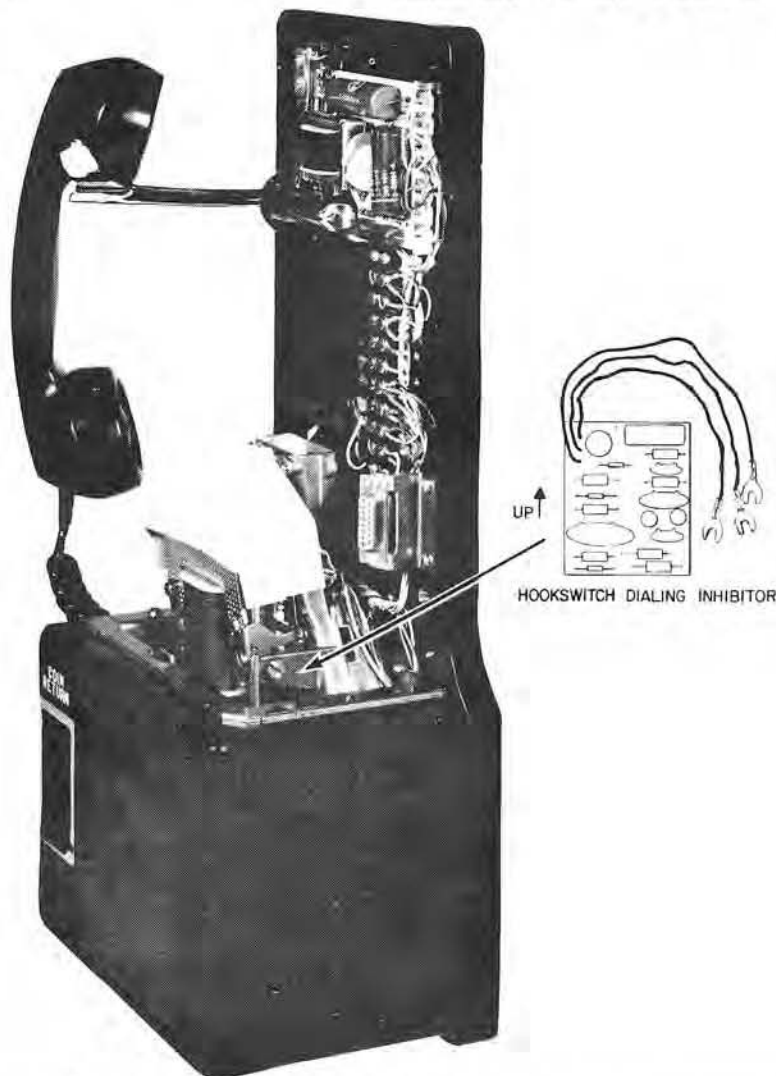
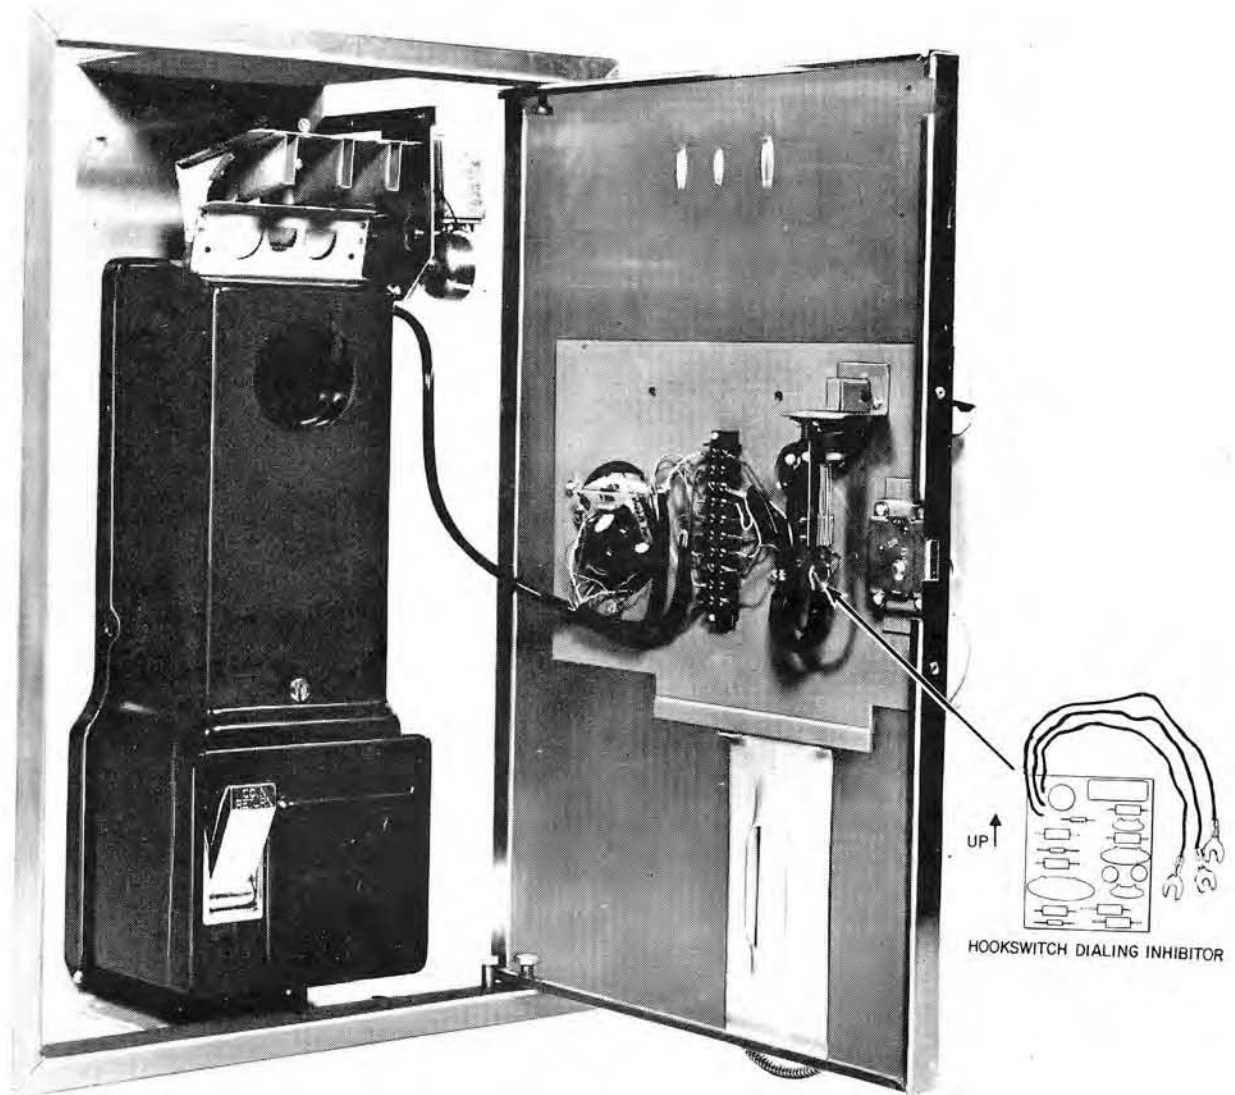
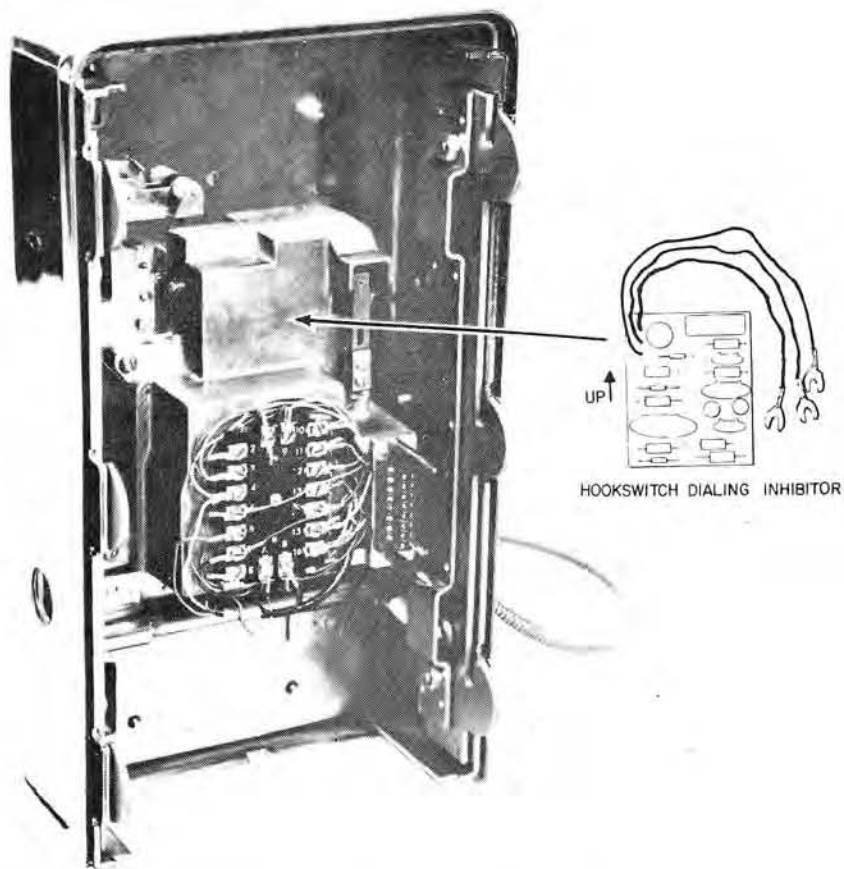

Figure 2. Inhibitor Installation in Multislot Set.
Figure 3. Inhibitor Installation in Multislot Panel Set.
Figure 4. Inhibitor Installation in Single Slot Set.
- (b) For multislot sets, the inhibitor mounts in the lower housing (Figure 2) alongside the coin relay. Orient the inhibitor to a vertical position so the large capacitor is at the top and the wire leads are at the top rear of the card. Remove the paper backing from the inhibitor and position the inhibitor against the right side and at the far rear of the coin relay mounting base. Press the inhibitor's card firmly against the surface until the adhesive adheres. For the multislot panel sets, mount the inhibitor on the inside surface of the panel (Figure 3). Orient the inhibitor with the large capacitor at the top and the wire leads at the top left of the card. Remove the paper backing from the inhibitor and position it directly below the hookswitch assembly. Press the card firmly against the surface until the adhesive adheres. For the single slot set, the inhibitor mounts in the upper housing (Figure 4). Orient the inhibitor to a vertical position with the large capacitor at the top and the wire leads at the top left of the card. Remove the paper backing and position the inhibitor on the vertical surface of the dial housing just above the terminal board and to the left of the hookswitch springs. Press the card firmly against the surface until the adhesive backing adheres.